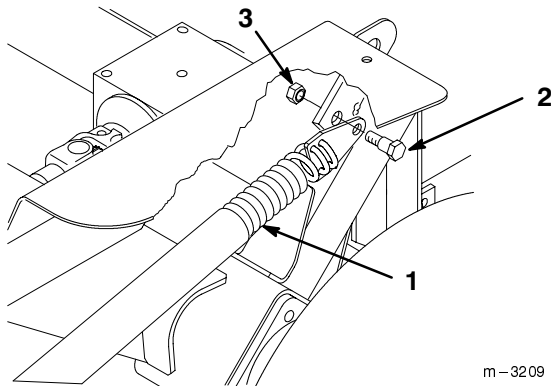

Figure 34
- Install shoulder bolts (3/8 in. x 7/8 in.) shoulder bolts and locknuts (3/8 in.) securing spring end plate assemblies to traction unit (Fig. 34).